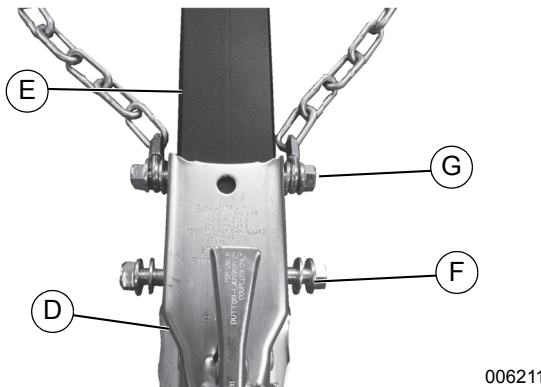

Figure 2-5. Receiver and Ball Hitch Extension
2. See Figure 2-5. Place receiver (D) on extension (E).